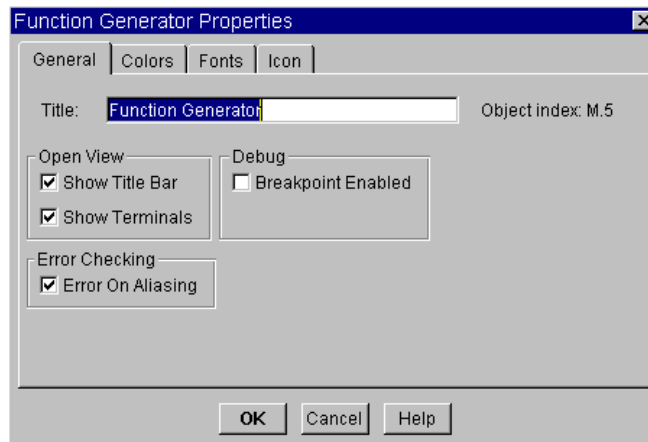

Figure 1-12. Changing the Title of an Object
1. Open the object menu and select `Properties...` A Properties dialog box appears with the current title highlighted, as shown in Figure 1-12.